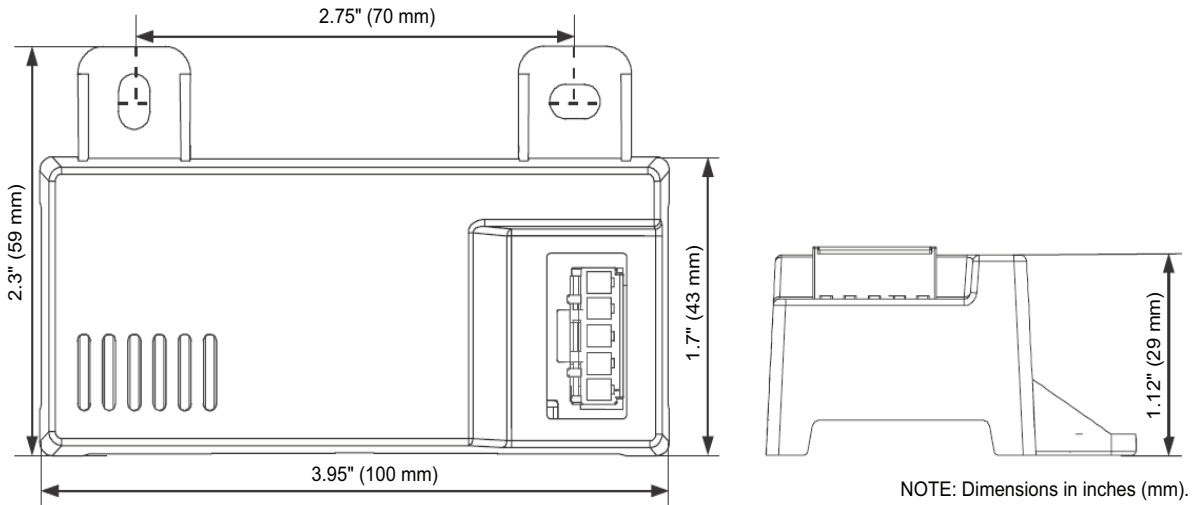
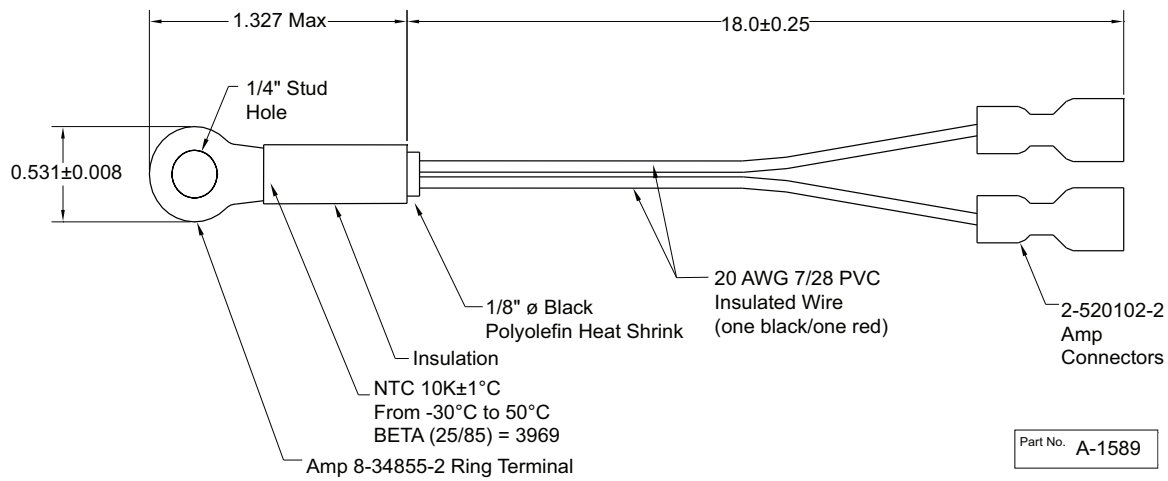
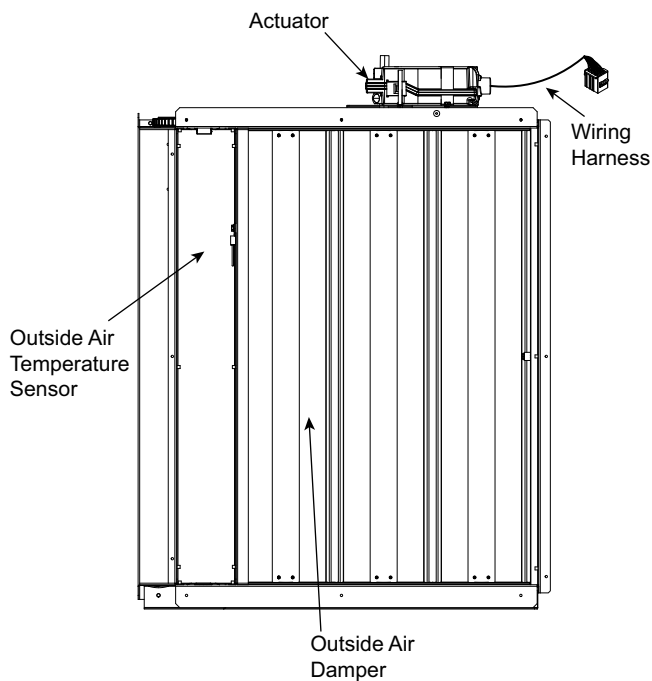

Fig. 91 – HH57LW001 Dimensional, Connection and Switching Information
Fig. 92 – HH79NZ039 Dry Bulb and Mixed Air Sensor Wiring
Fig. 93 – EconomizerONE Component Locations (CRECOMZR108A00 Shown)
When using the HH57LW001 enthalpy sensor (see Fig. 91) for outside air changeover, the existing HH79NZ039 dry bulb sensor (see Fig. 92) must be removed. The enthalpy sensor will be mounted in the same location as the dry bulb sensor (see Fig. 93). When the enthalpy sensor's OA (Outside Air) temperature, enthalpy, and dew point are below their respective setpoints, the outside air can be used for free cooling. When any of these are above the setpoint, free cooling will not be available. Enthalpy setpoints are configurable and create an enthalpy boundary according to the user's input. For additional details, see Fig. 94-95 and Table 37.
The optional enthalpy control sensor (P/N: HH57LW001) communicates with the POL224 economizer controller using the 5-wire harness, 48TC005213. The HH57LW001 sensor can be used as a single outside air enthalpy, a differential return enthalpy, or a differential return temperature sensor. Refer to the base unit control wiring diagrams found earlier in this book to wire the HH57LW001 enthalpy sensor for each option. Use Fig. 91 and Table 39 on page 78 to locate the wiring terminals for each enthalpy control sensor.
Economizers are shipped standard with an HH79NZ039 outside air dry bulb sensor (see Fig. 92). System default setting (high temp limit) is 63°F (17°C) and has a range of 48°F to 80°F (9°C to 27°C). Sensor is factory installed on economizer.
If installing the optional HH57LW001 enthalpy sensor, the HH79NZ039 dry bulb outside air sensor must first be removed. Wire sensor to harness 48TC005213 and the (5) wires from the harness to the EconomizerONE harness in the return air chamber. Harness 48TC005213 has a 5-pin plug that connects directly to the HH57LW001 enthalpy sensor. Refer to the base unit control wiring diagrams earlier in this book for wiring connections. Refer to Fig. 91 and Table 39.